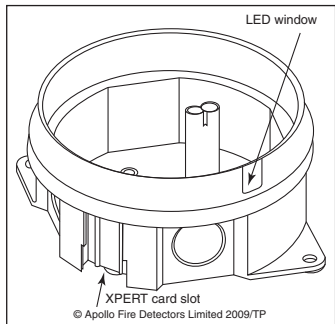

Fig 1 Mounting Box
2. If using the mounting box with XP95® or Discovery® detector base, set the address on the XPERT card, break off the tab and store it in the recess provided (Fig 1) with the number facing outward.
Note: if using the XP95 Isolating Base, Part no. 45681-284, align the LED with the clear window on the Mounting Box (Fig 1). The LED side wall on the Isolating Base will need to be removed prior to fitting.